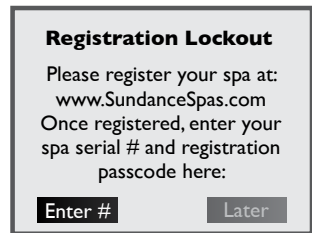
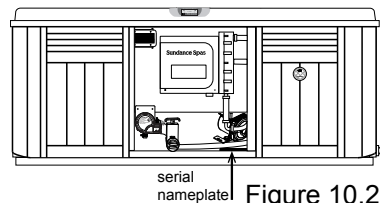

Figure 10.2a
Figure 10.2b
Registering your spa is important in order to validate your warranty, Figure 10.2a. In order to register you will need to have the spa serial number, Figure 10.2b, then you will need to register online in order to receive a passcode. The passcode must be entered on the control panel in order to unlock the registration lockout.
1. From the registration screen, Figure 10.2a, tap  to enter the spa serial number.